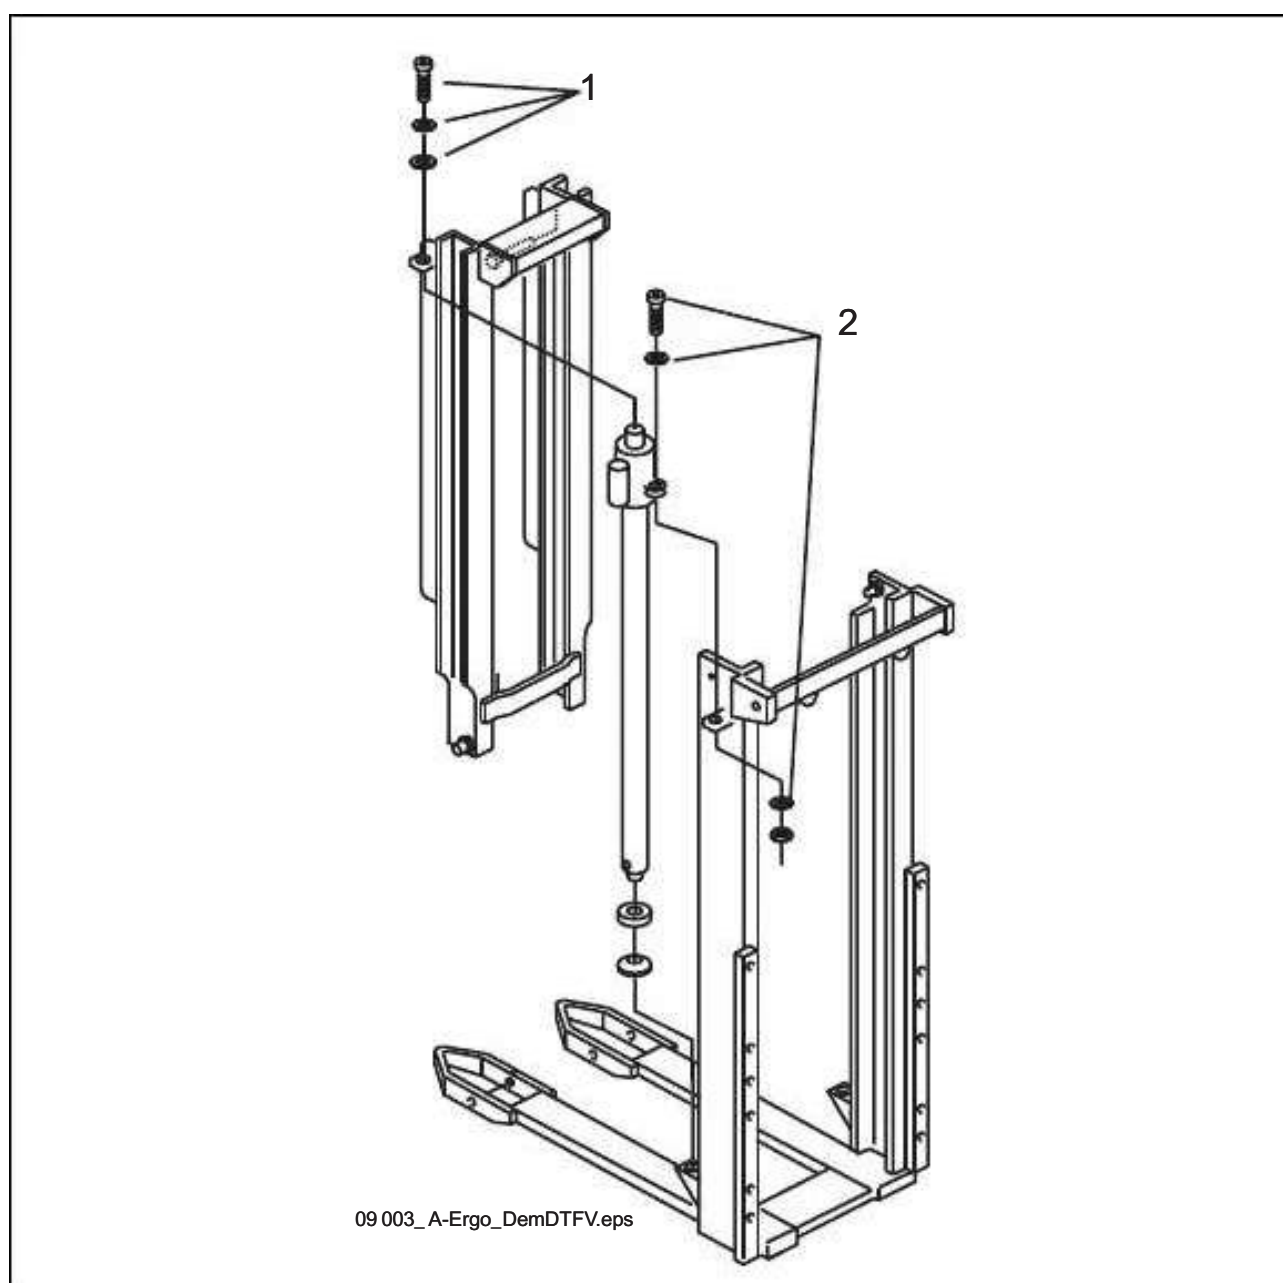

**Figure 9.3** Lift cylinder TV/TFV/DTFV
2. Loosen the upper retaining screws, pos. 1 see Figure 9.3.
5. Remove the retaining screw, pos. 2 see Figure 9.3.